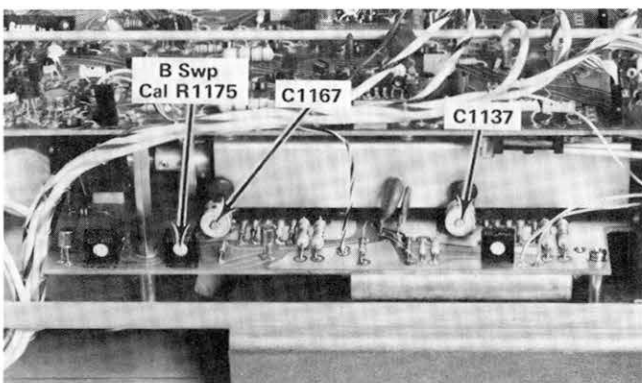

Fig. 5-31. Location of High Speed Timing and B Sweep Cal adjustments.
d. ADJUST—B Sweep Calibration adjustment, R1175, (see Fig. 5-31) for 1 time marker/division.
d. ADJUST—A High Speed Timing adjustment, C1137, (see Fig. 5-31) with the low-capacitance screwdriver, for one time marker/division.
- e. **ADJUST**—B High Speed Timing adjustment, C1167, (see Fig. 5-31) for one time marker/division.